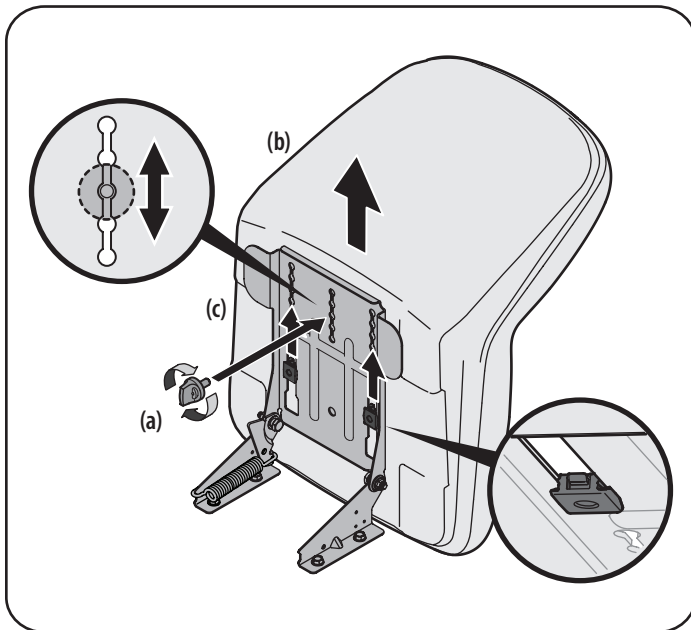

Figure 7
3. Slide the seat (b) rearward in the seat pivot bracket (c), lining up the center rear slot in the seat pivot bracket (c) with the remaining hole in the seat (b) base. See Figure 7.
NOTE: Be certain the two seat tabs engage the seat pivot bracket as shown in the bottom right inset of Figure 7.
4. Select the desired position for the seat (b), and secure with the adjustment knob (a) removed in Step 1. See Figure 7.
5. To adjust the position of the seat, remove the adjustment knob (a) on the bottom of the seat (b). Slide the seat (b) forward or backward as desired. Reinstall the adjustment knob (a). See Figure 7.